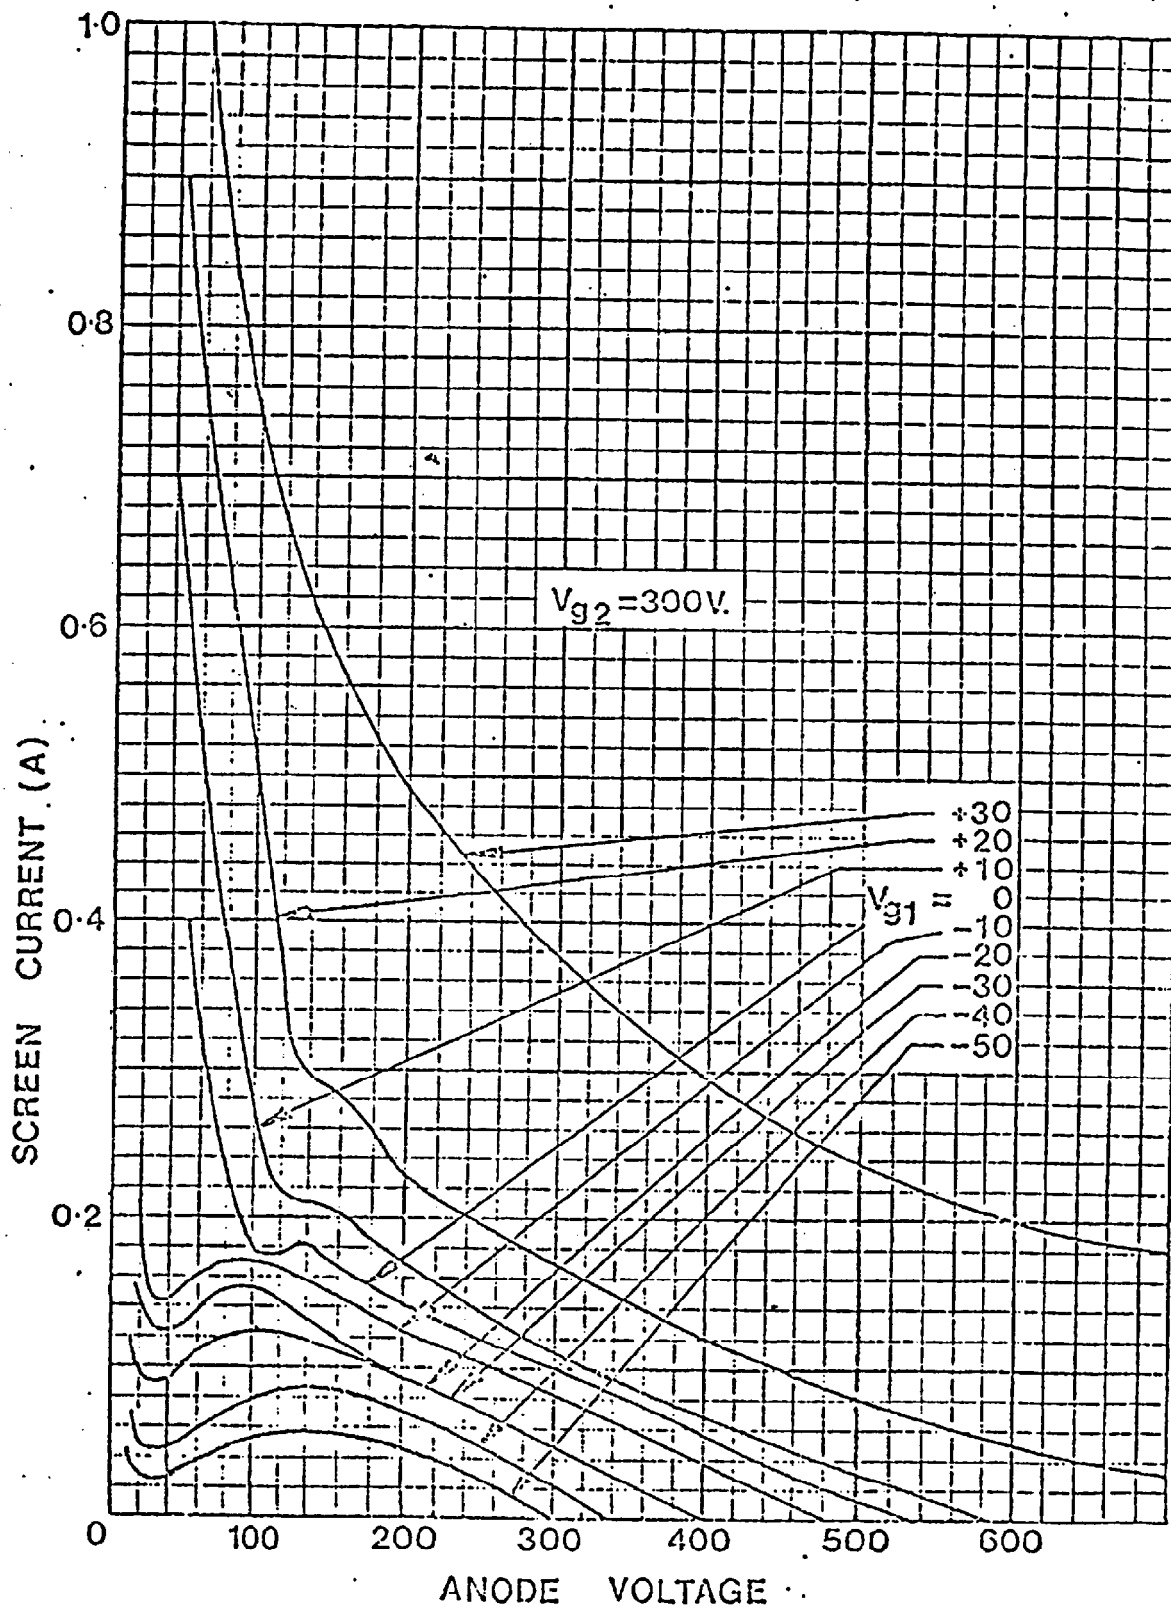

Fig. 4
- (2) See Figs. 4, 5 and 6 for curves of screen grid current as a function of anode voltage for stated values of control grid and screen grid voltages.